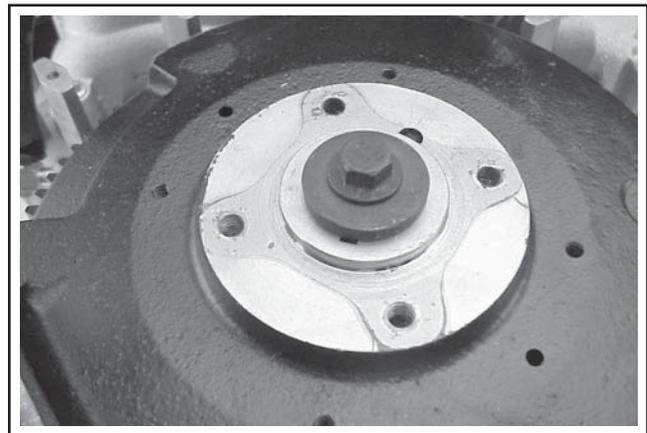

Figure 11-69. Installing Flywheel Mounting Hardware.
3. Install the hex flange screw and washer. See Figure 11-69.